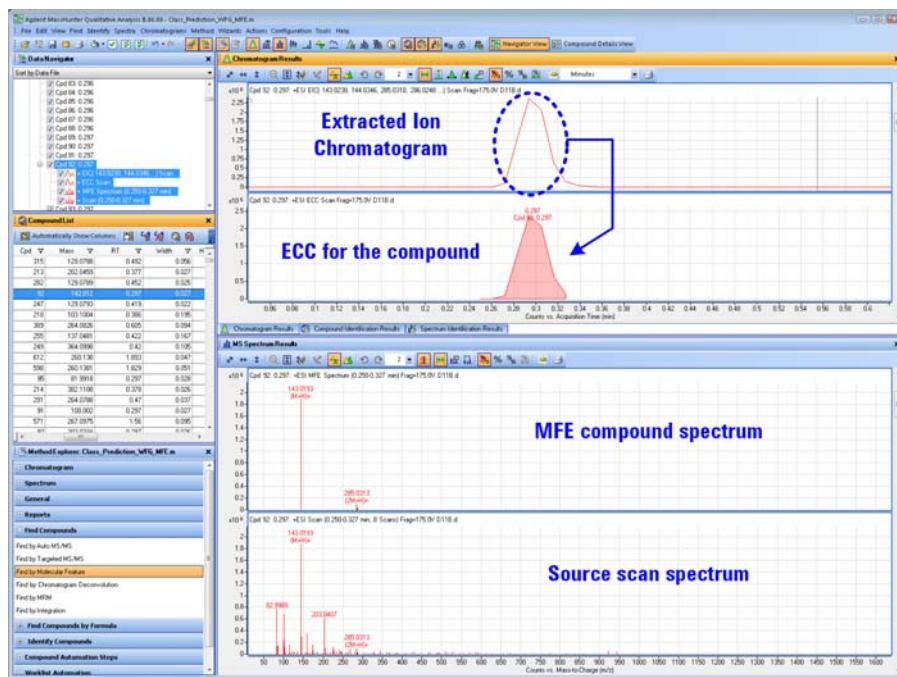

Figure 39 Display of the Extract Complete Result Set from the Compound List
The results are displayed in the **Chromatogram Results** and **MS Spectrum Results** windows. These windows are updated when you use the arrow keys to move up and down the Compound List. See Figure 39 on page 58.
- b If a significant number of compounds are too weak to provide confidence as a molecular feature, adjust the Find by Molecular Feature parameters. Weak compounds have small values for Height and Vol in the **Compound List** (see Figure 38) and have low count values in the **Chromatogram Results** and **MS Spectrum Results** (see Figure 39 on page 58).